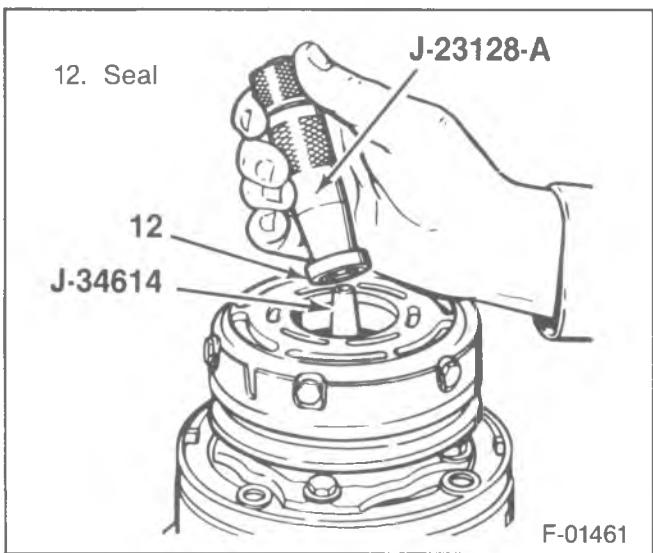

Figure 17—Removing the Shaft Seal with J-23128-A
- 3. Shaft seal (12).
- Engage J-23128-A into the recessed portion of the seal by turning with a hand motion (figure 17).